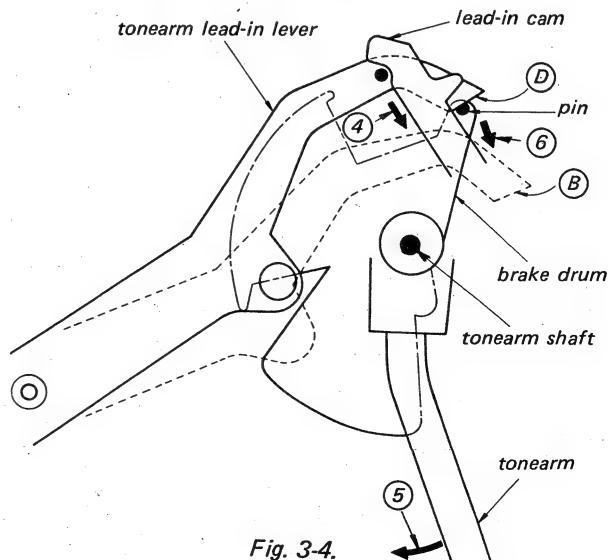

Fig. 3-4.
5. At this time, the lead-in lever moves in the direction of arrow ④, guided by the lead-in cam which moves together with the main lever. The tip ⑤ of the lead-in lever moves to position ⑥, pushing against a pin on the brake drum in the direction of arrow ⑥. And since this brake drum moves in unison with the tonearm, the tonearm will move across (horizontal movement) in the direction of arrow ⑤. (See Fig. 3-4.)